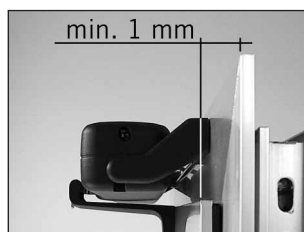

Fig. 1
- With tilt sashes, the clearance between frame and sash profile must be at least 1 mm (Fig. 1) in order to provide for safe closing of the window.